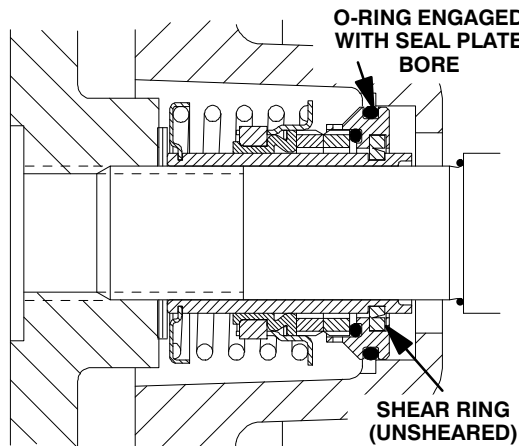

Figure 11. Seal Partially Installed
Clean and inspect the impeller as described in **Impeller Installation and Adjustment**. Install half of the set of impeller shims (2) provided with the seal, and screw the impeller onto the shaft until it is seated against the seal (see Figure 11).